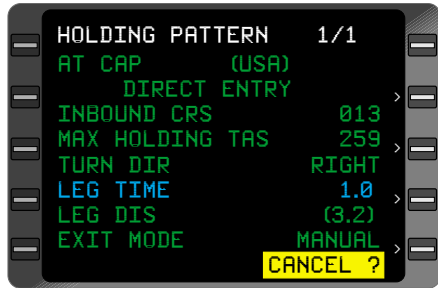

Figure 3-111
1. Line Select Key - DEPRESS to position the cursor over the **CANCEL?** prompt. (Figure 3-111)